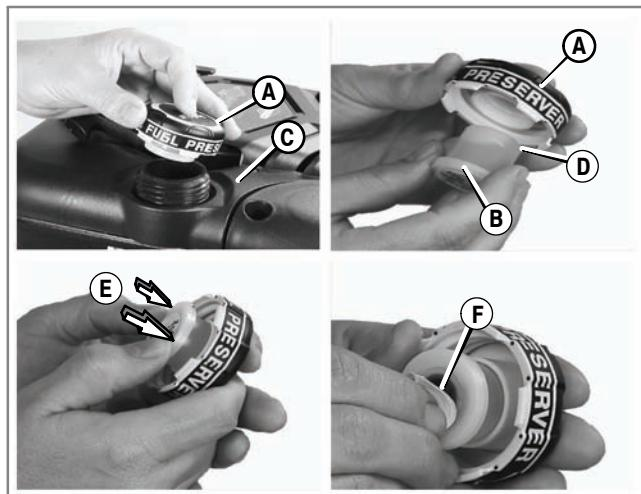

Figure 5
- Remove the fuel cap (A) from the fuel tank (C) (Figure 5).
- Push the small end (D) of the cartridge (B) into the fuel cap.
- Press (E) to snap the cartridge into the fuel cap.
- Pull the tab (F) to remove the membrane cover.